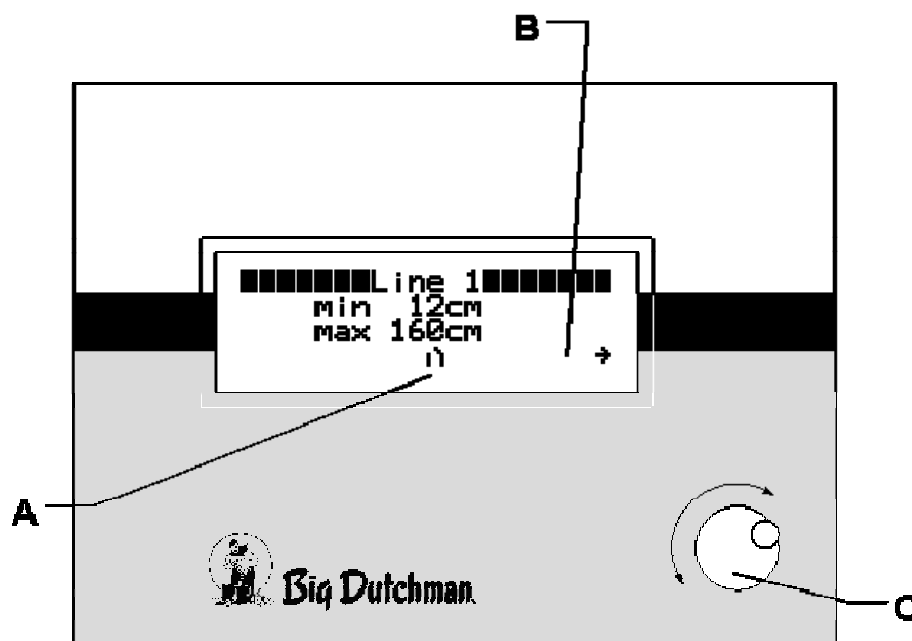

Fig. 1: Schematic representation of the control unit
The **control knob (C)** enables the visible menu items and nominal values to be selected on the **Display (B)** (see Fig. 1).
The menu is hierarchically structured. After selecting one menu item, you open the next lower menu level. You can navigate within a menu level by using the **arrows** (← →) at the bottom row of the display. Selecting the **"return"** icon – ↵ – (see Fig. 1 A) brings you back to the next higher menu level.